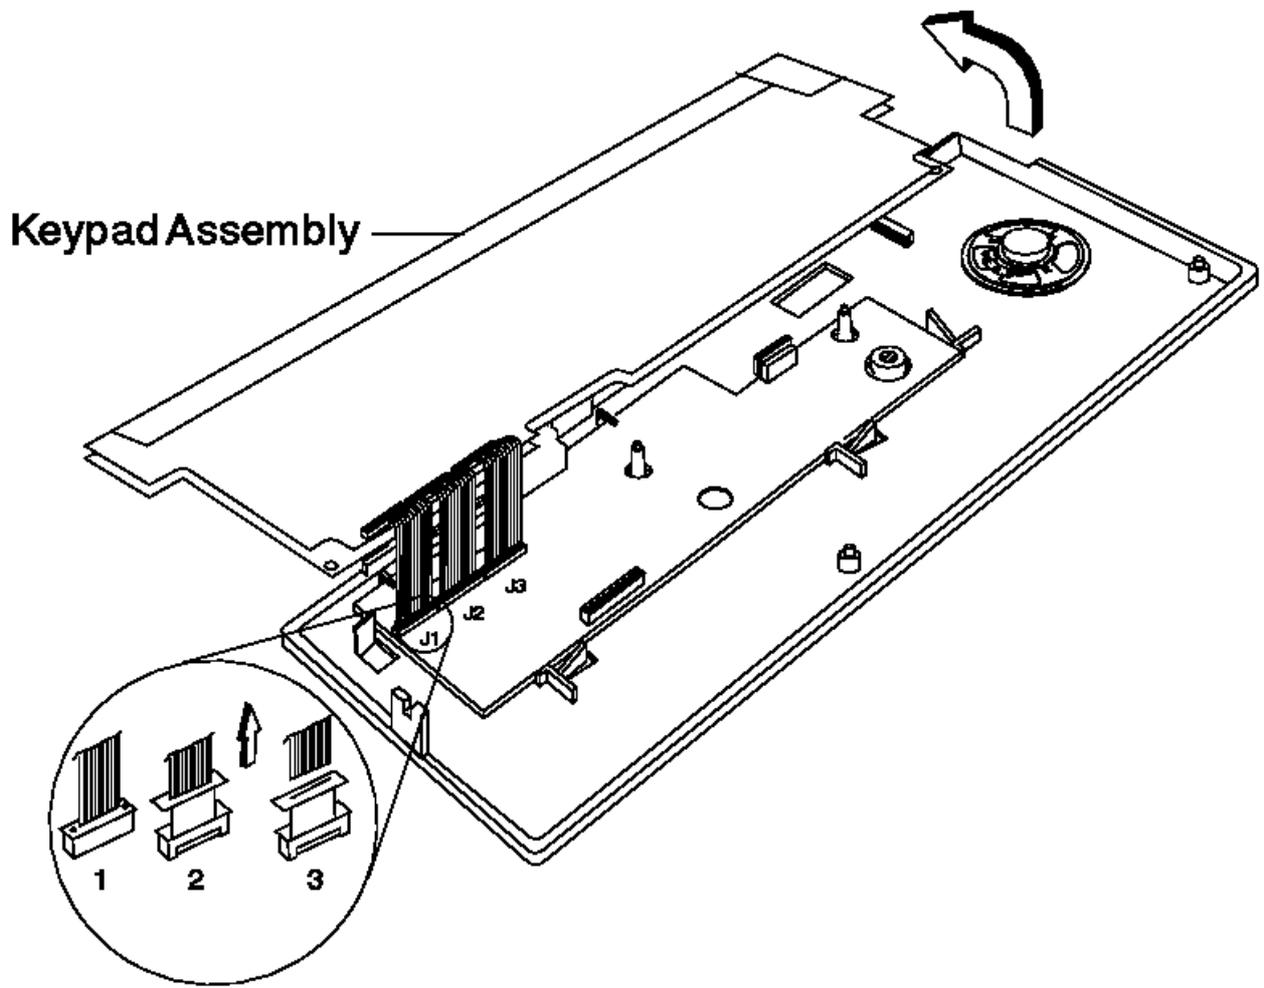

Figure 4-5. Removing the Keypad Assembly
3. Lift the keypad assembly and turn it over as shown in Figure 4-5 in topic 4.3.3.7.